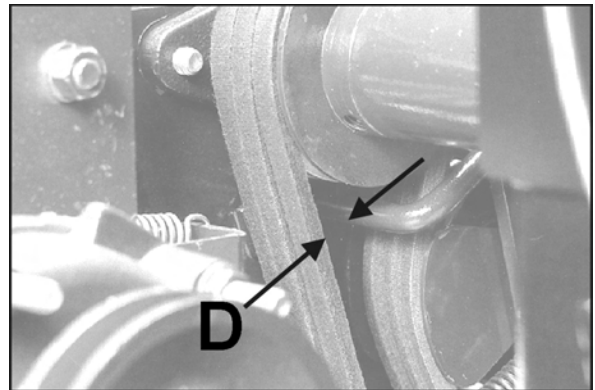

FIGURE 1
Engage the reel drive clutch. Measure the distance between the reel drive belts and the forward edge of the idler assembly belt stop. Measurement **D** should be 3/4" (19 mm). If the Reel belt requires adjustment the Transmission Drive Belt must also be adjusted. (Figure 1)
6. Square the engine with the chassis. If measurement **D**(Figure 1) is over 3/4" (19mm) slide the engine forward as necessary to obtain proper measurement **D**. If measurement **D** is under 3/4" (19mm) slide the engine rearward as necessary to obtain proper measurement. Tighten the engine mounting screws.